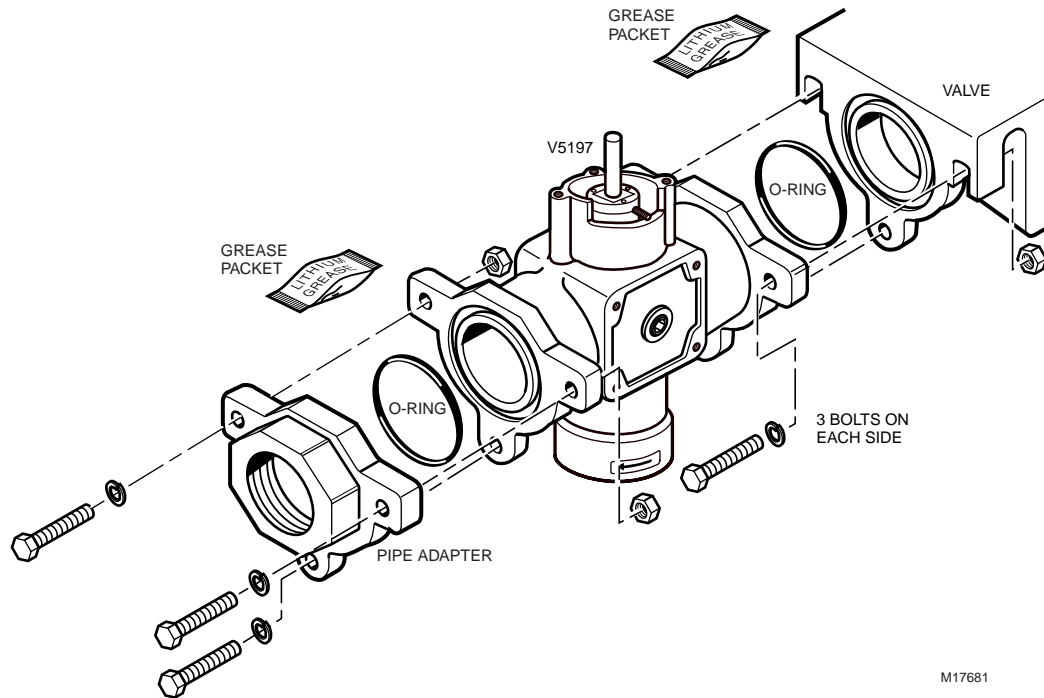

Fig. 13. Mounting the V5197 Valve in the IVT.
2. Using the grease packet provided (or equivalent, general purpose, lithium grease), grease the O-rings provided with the valve. Make sure the grease is applied evenly around the O-ring. See Fig. 13.
3. Connect the V5197 Valve to the safety shutoff valve (SSOV) using three bolts, nuts and lockwashers as shown in Fig. 13.